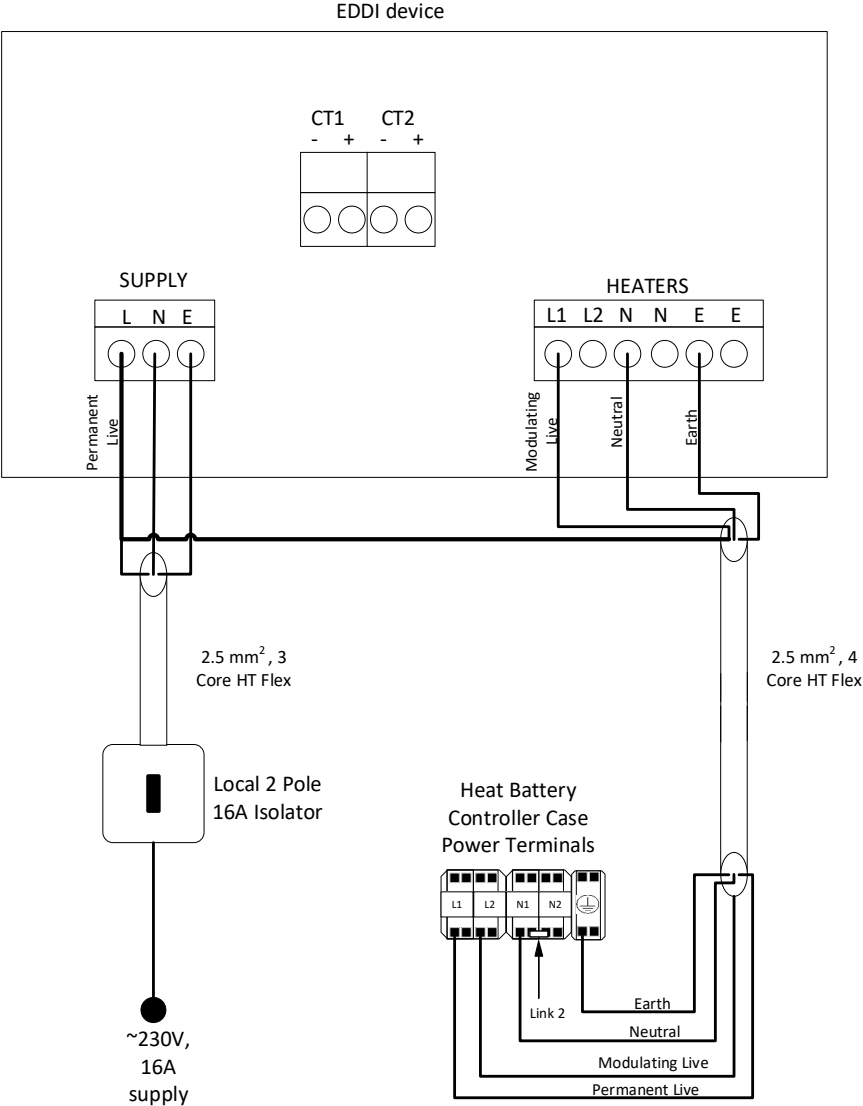

Figure 15: Solar Power Diverter wiring – “EDDI MYENERGI”
- Prepare if necessary and wire the mains power cable from the Sunamp Controller in the following terminals on the Solar Power Diverter (Figure 15):
- Prepare if necessary and wire the mains power cable Solar Power Diverter (Figure 15):